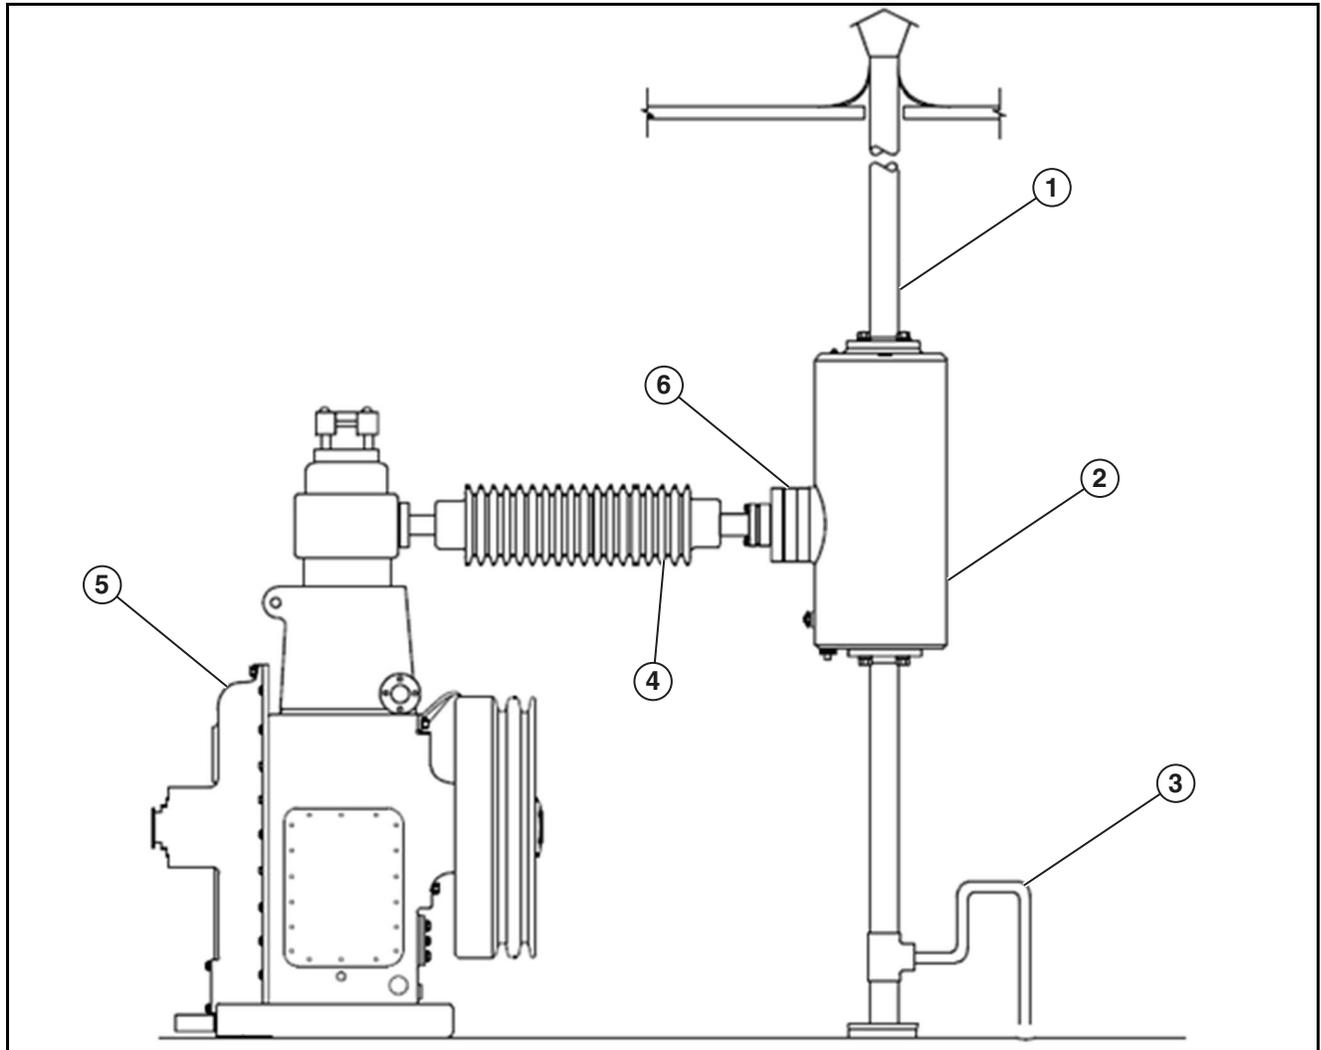

Figure 5: Proper Installation of the CFR Exhaust
- The trap shall be completely closed with no visible openings as pictured in *Figure 5*.